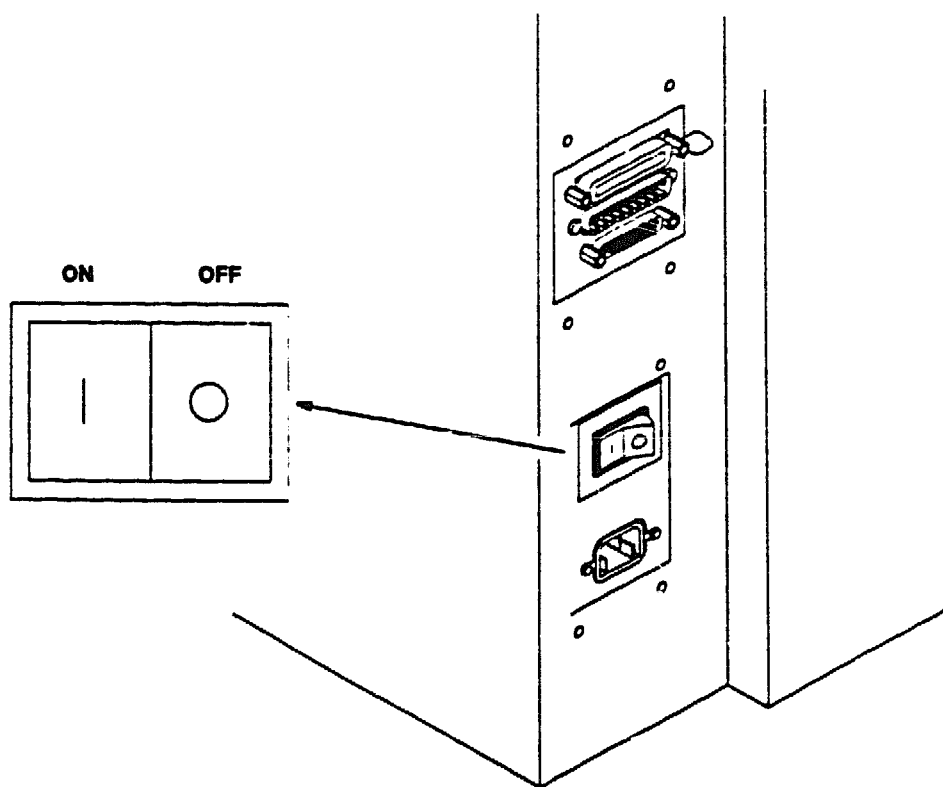

Figure 3-1. Power Switch
2. Set the power switch to the | (on) position. The power switch is located on the bottom left rear of the cabinet. (See Figure 3-1.)
2. Set the power switch to the O (off) position. (See Figure 3-1.)